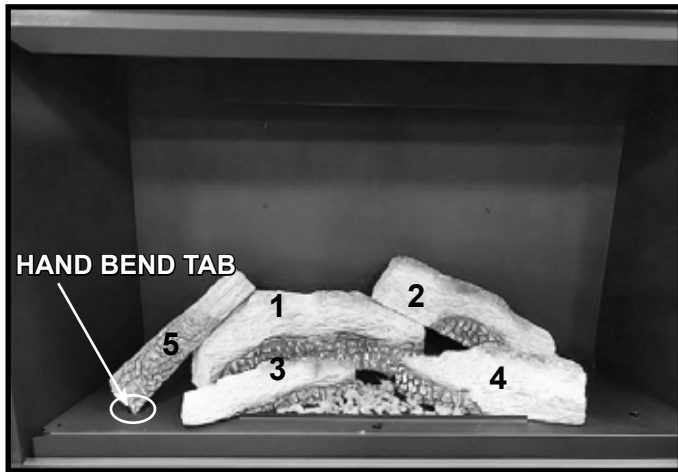

Figure 9. Install Log #5
7. **LOG #5:** Locate and install Log #5. This Log does not have any “burn out” features painted on the log. The “left” end of this log will rest on the base pan and contact the hand bend tab indicated in Figure 9. the “right” end will rest on the “left” end of Log #1. See Figure 9.